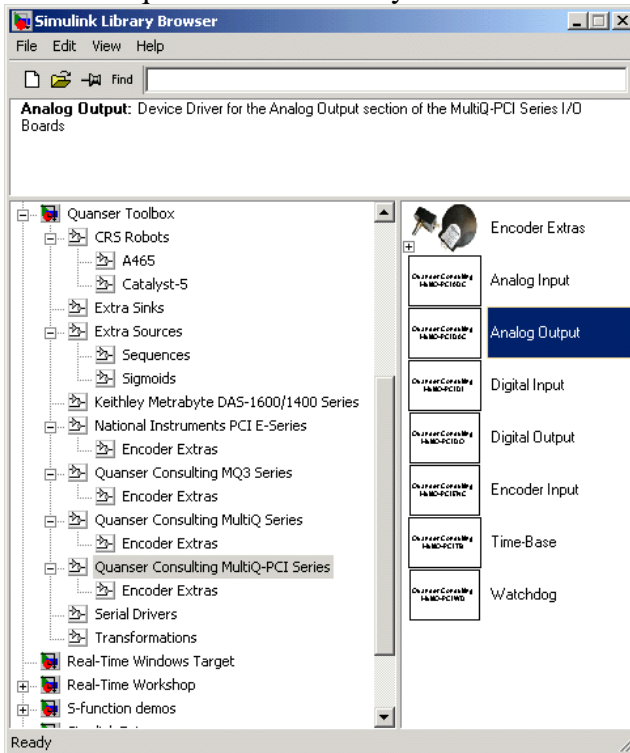

Figure 4 Quanser Toolbox and Data Acquisition Blocks
shown in Figure 4, below. Make sure that you select the DAC block corresponding to the data acquisition board that you have installed (e.g. MultiQ-PCI).
Step 2. The Analog Input block is available under the Quanser Toolbox in Simulink, as shown in Figure 4, on page 5. Make sure that you select the Analog Input block corresponding to the data acquisition board that you have installed (e.g. MultiQ-PCI).